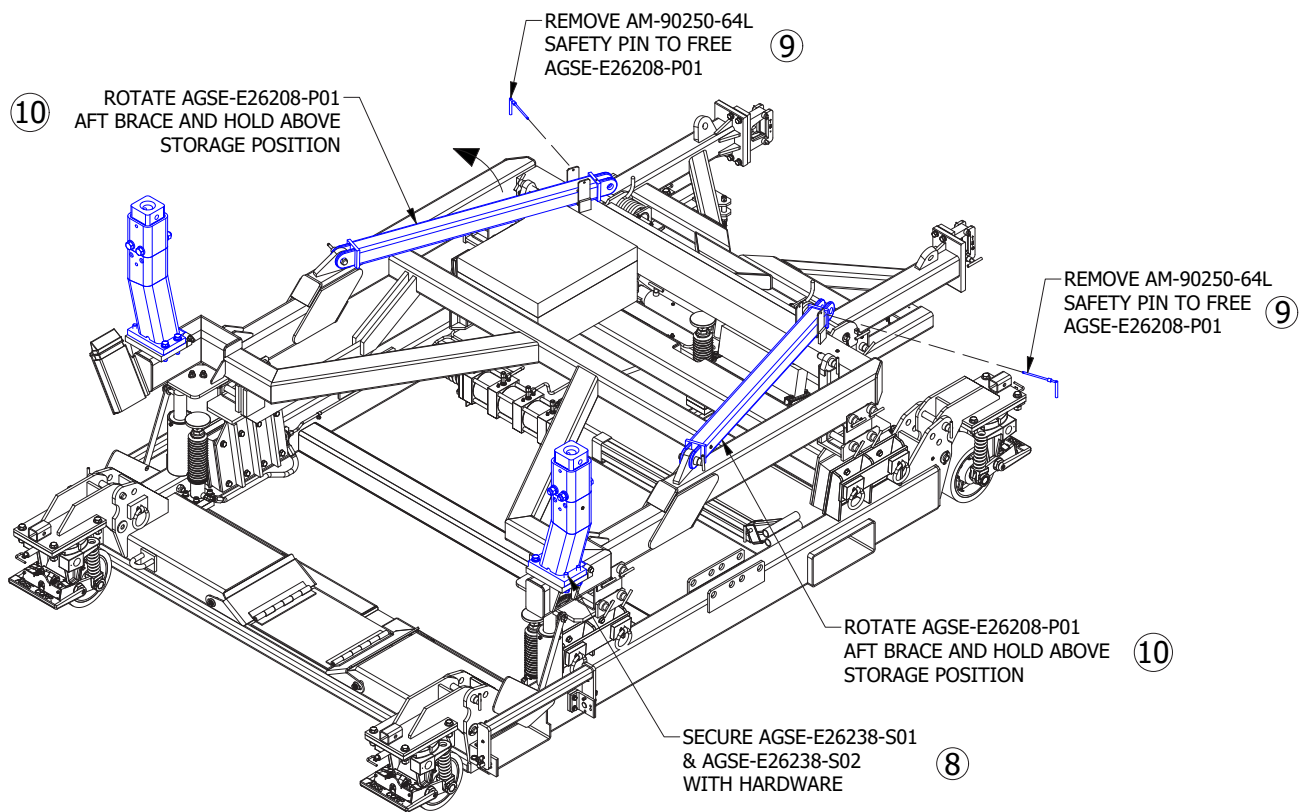

Figure 5.1-4
- 8) Secure with the removed hardware. (Illustration Figure 5.1-4).
- 9) Remove two (2) AM-90250-64L safety pins to free the AGSE-E26208-P01 AFT braces from their stow position. (Illustration Figure 5.1-4).
- 10) Rotate AGSE-E26208-P01 AFT braces and hold above storage position. (Illustration Figure 5.1-4).